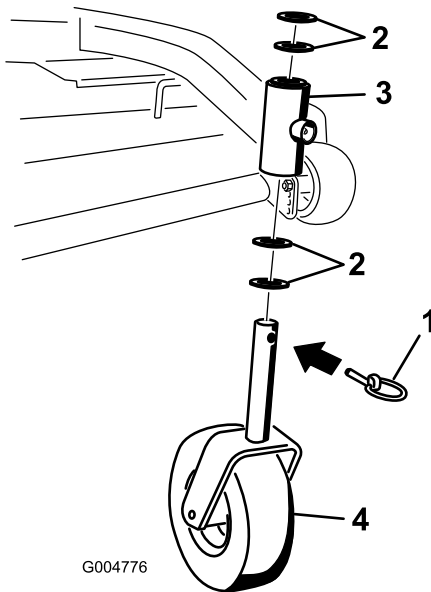

Figure 57
2. Remove the locking pin and spacer(s) from the top of the caster wheel fork (Figure 57).
6. Inspect the caster wheel fork for wear and replace if necessary (Figure 57).
7. Slide the caster wheel fork through the bushings in the mounting tube. Replace the spacer(s) onto the fork and secure with the retaining ring (Figure 57).